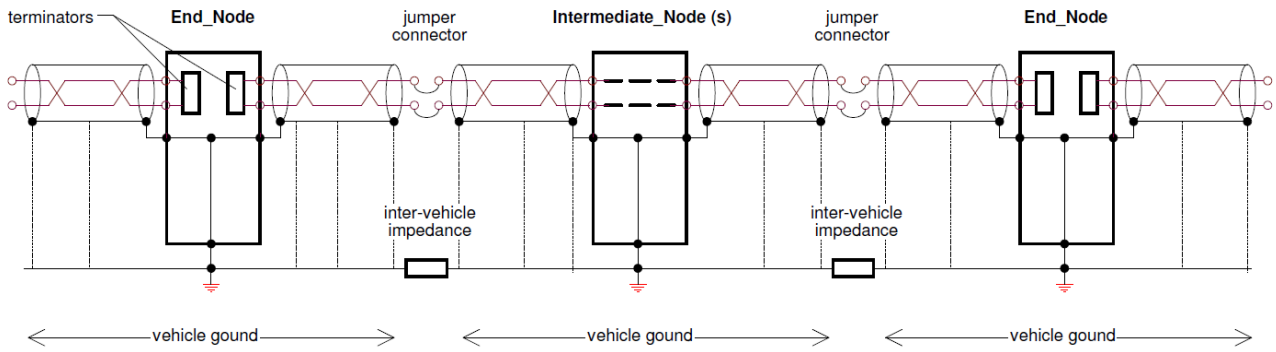

Fig. 3 - Grounded Shield Concept – Compliant with the UIC558 requirements
- The jumper cables shall not establish shield continuity between vehicles, as shown in Figure 3. The shielding must lead into the connector housing and here it must be left open. See the UIC558 plate 8 for detail interconnection drawing.